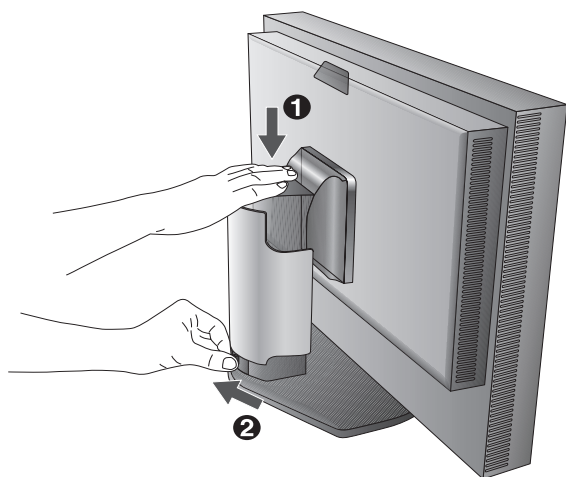

Figure B.1
3. Height adjustment is locked by a lock button. Place hand on top of the monitor stand to push down the screen to the lowest position. Slide the lock button to unlock (**Figure B.1**).